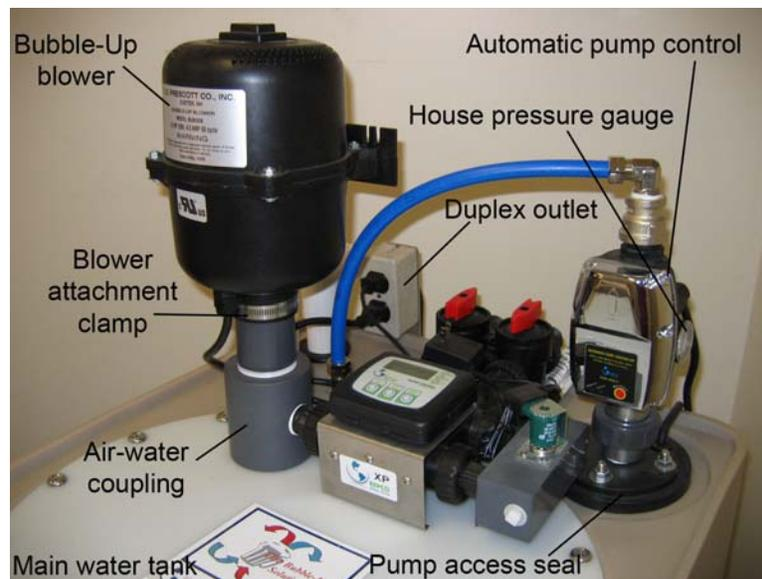

Fig. 2A Installation Points
7. Undo the XP manifold nut that attaches the fitting to the air-water coupling below the blower. See Fig. 2A.
5. Loosen the 4 nuts on the pump access seal. See Fig. 2A. Do not remove nuts so that the bolts do not fall into the Bubble-Up XP main water tank. Note that the direction of the float switch cord is towards the duplex outlet so that it can be re-installed in the same position.